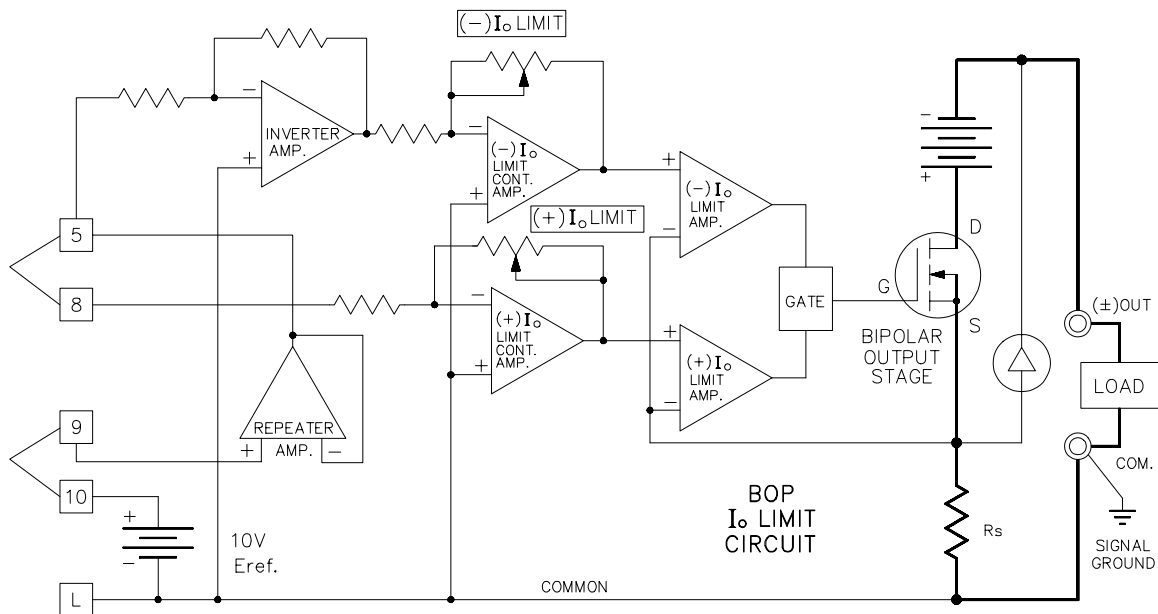

FIGURE 3-4. BOP (±) CURRENT LIMITING CIRCUIT
- 4) (\pm) I_o Limit Circuits (FIG 3-4)